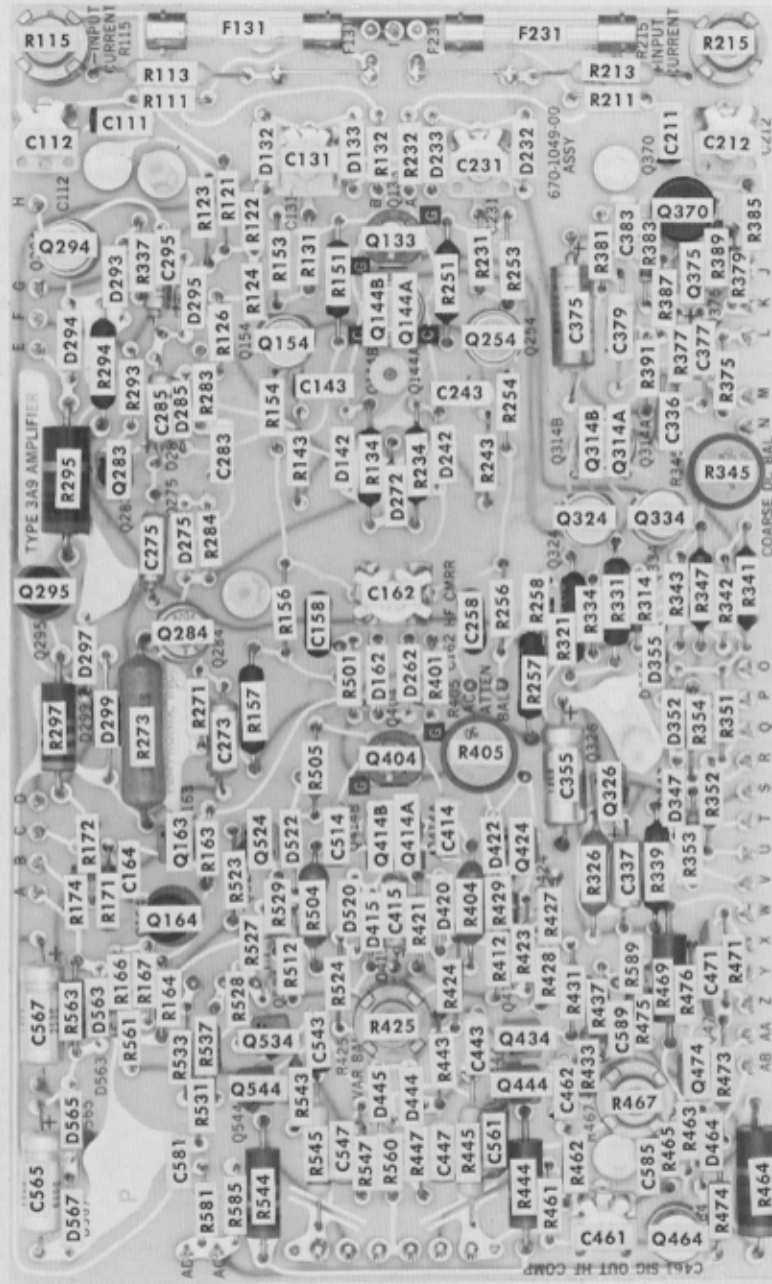

Fig. 4-4. Amplifier circuit board (components).
Circuit Boards. Figs. 4-4, 4-5 and 4-6 show the circuit boards used in the Type 3A9. Each electrical component on the boards is identified by its circuit number. The circuit boards are outlined with a blue line on the diagrams. The photographs of the boards used along with the diagrams will aid in locating the components mounted on the circuit boards and checking interconnecting wiring to the boards.
6. Check Circuit Board Interconnections. After the trouble has been isolated to a particular circuit, check the pin connectors on the circuit boards for correct connections. Figs. 4-4 and 4-6 show the correct connections for each board.